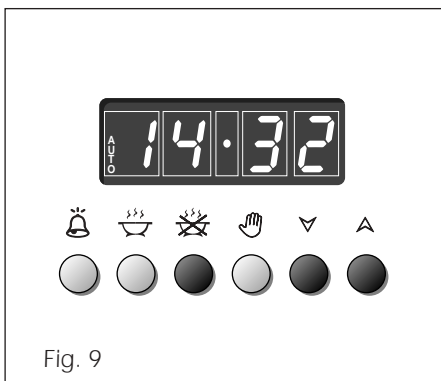

Fig. 9
2. Set the end of the cooking time by pressing the  button (the cooking time already added to the clock time will appear), and the  button (fig. 9); if you pass the desired time you may get back by pushing the  button.